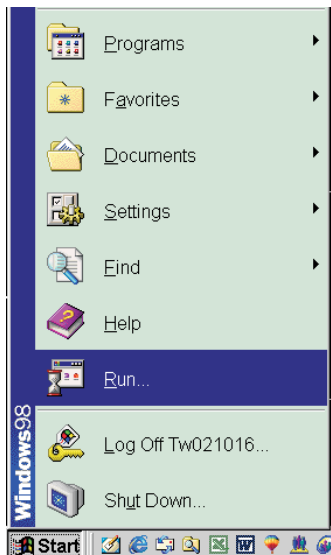

Fig. 4
2. Click  Start, choose Run at start menu of Windows as shown in Fig. 4.